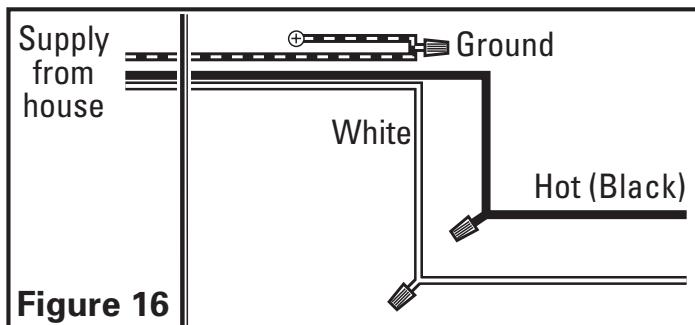

Figure 16
3. From where you have access to inside the housing's junction box, connect the white wire from the house to the white wire from the light socket. Connect the black wire from the wall switch to the black wire from the light socket. Connect the ground wire from the house to the green wire from the grounding screw (**Figure 16**). Use approved methods for all connections.